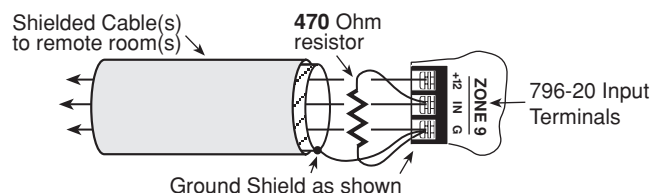

Fig. 3 Using a 470 Ohm Capacitance Discharge Resistor
6. **Considerations for Shielded Wire and Long Lead Lengths.** When using long lengths (>50 ft.) of inter-room shielded cable (> 75 ft. unshielded), it may be necessary to connect a 470 Ohm 1/8 Watt resistor between IR IN (signal) and G at the 3-screw terminals of the 796-20. Refer to **Fig. 3**.